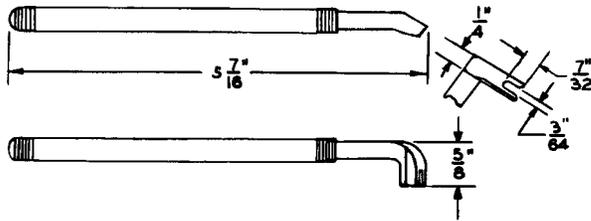

Fig. 8—215 Adjuster Tool
2.08 **215:** The 215 tool (Fig. 8) is a spring adjuster used to adjust "A" cam roller spring tension on sequence switches of panel type equipment.